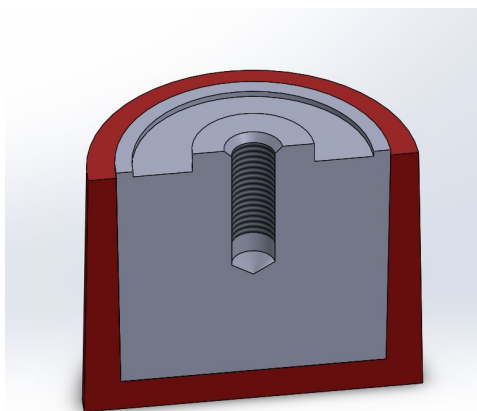

Figure 5. Remove the inner support plate.
5. Remove the inner support plate (Figure 5).